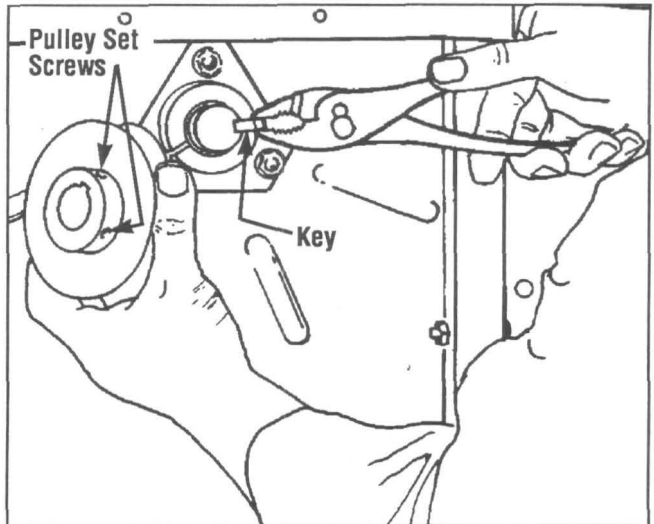

Fig. 6
A. On the engine side of the cylinder shaft, rotate the lower pulley until the two set screws in its shoulder are visible (see Fig. 6). Using a 5/32" hex key (Allen) wrench, remove the two set screws.
E. Using pliers, remove the 1 1/4" long rectangular key from the keyway in the shaft (unless key remains inside the keyway of the pulley). See Fig. 6. If necessary, tap the key with a mallet and a punch to help loosen it. Save the key for reuse.